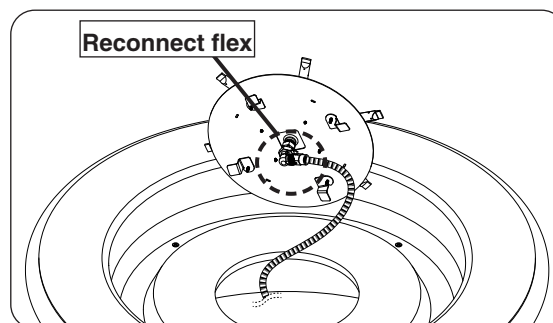

Fig. 34-4 Reconnect flex connector
1. Reconnect flex line coming from the valve to the burner assembly (see Fig. 34-4).